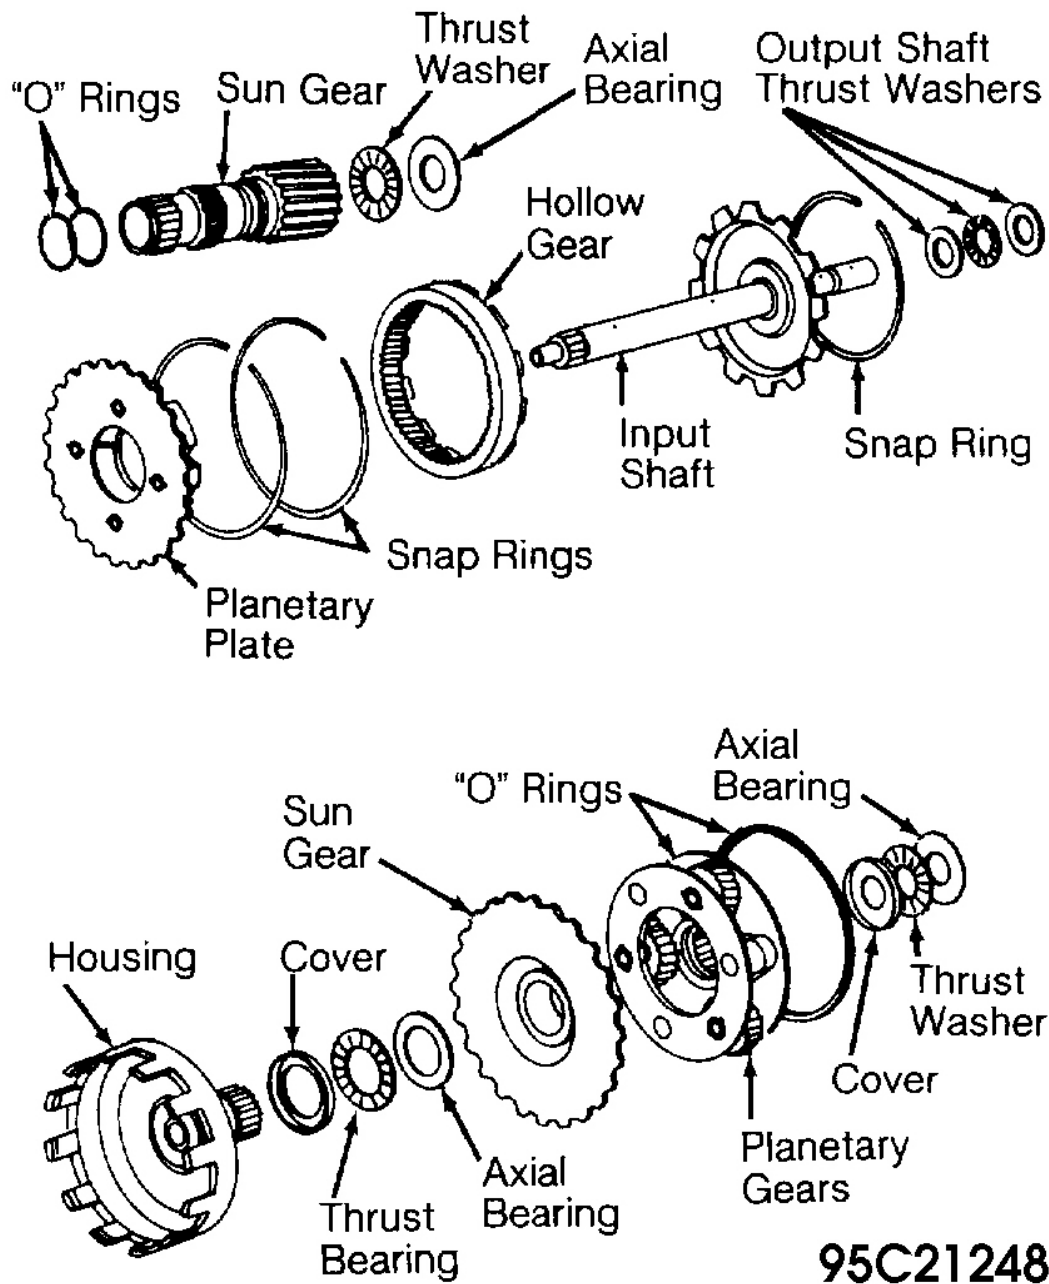

Fig. 15: Exploded View Of Front Planetary Gear Set & Components
2. Remove sun gear shaft. Remove axial bearing and thrust washer. Remove snap ring, hollow gear and planetary plate. See **Fig. 15** . Remove remaining components from housing.